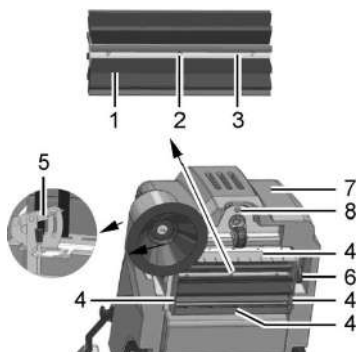

Fig. 10
The brush space with rotary brush (Fig. 10/1) and gaskets (Fig. 10/4) must be checked daily for signs of dirt and cleaned, if necessary.
The rotary brush (Fig. 10/1) must be checked weekly and changed in the case of wear.
2. Loosen the six screws (Fig. 10/2) in the rotary brush and remove the two roller segments.
In the case of brush wear, and after changing the rotary brush (Fig. 10/1), readjust the sweeping pattern.
1. Switch the machine off, unscrew the locking bolt (Fig. 10/8) and open the hood (Fig. 10/7).
2. Loosen the wing nut on the adjusting lever (Fig. 10/5) and adjust the sweeping pattern using the adjusting lever by pivoting it up and down until it touches the floor.
8. Close the hood (Fig. 10/7) and screw the locking bolt (Fig. 10/8) back in
The four sealing strips (Fig. 10/4) must be checked weekly and changed in the case of wear.
2. Remove all four sealing strips (Fig. 10/2) with holders.
The timing belt (Fig. 10/6) must be checked every 500 operating hours and changed in the event of wear.
2. Slacken the timing belt (Fig. 10/6) using the tension pulley and remove the belt.
4. Close the hood (Fig. 10/7) and screw the locking bolts (Fig. 10/8) back in.